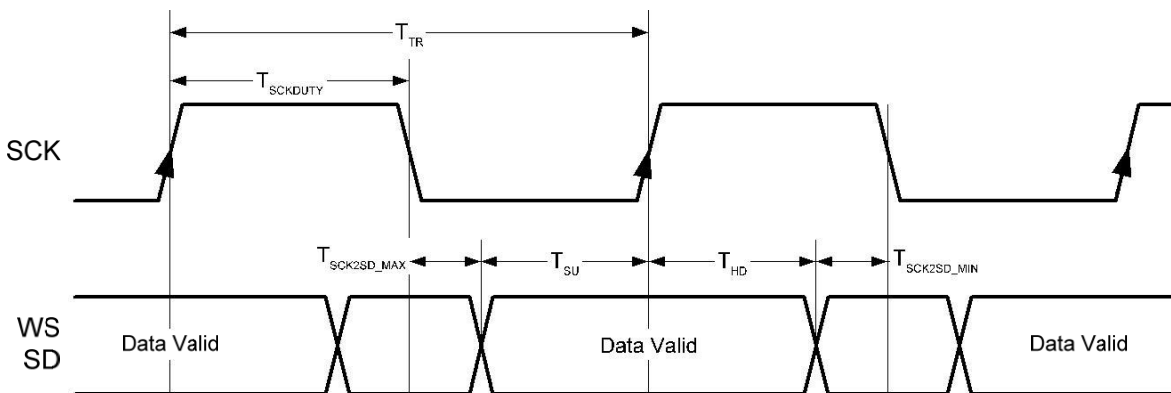

Figure 17. I²S Output Timings
- Refer to Figure 17. Meets timing required by the Philips I²S Specification.
Valid serial data is available at T_{SCK2SD} after the falling edge of the first SCK cycle, and is then captured downstream using the active rising edge of SCK one clock period later. The setup time of data to SCK (T_{SU}) and hold time of SCK to data (T_{HD}) are there a function of the worst case SCK-to-output data delay (T_{SCK2SD}). Figure 17 illustrates this timing relationship. Note that the active SCK edge (rising edge) is shown with an arrowhead. The logic is reversed a falling edge sampling clock.